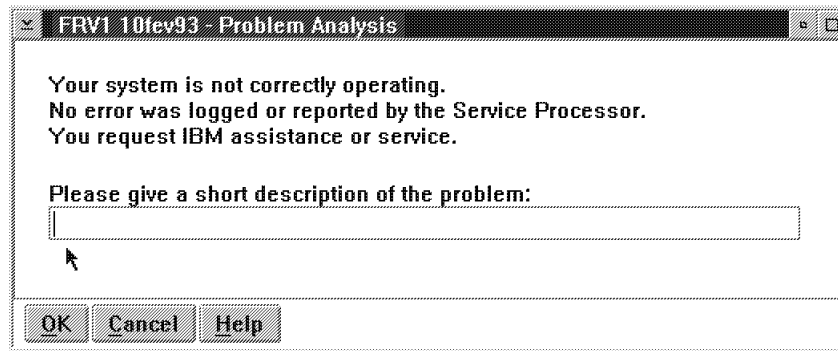

Figure 2-58. Link to RETAIN
4. \_\_\_\_ See Figure 2-58, enter a **short description** "Installing the 3746-900 and testing the RSF link", then click on "**OK**".